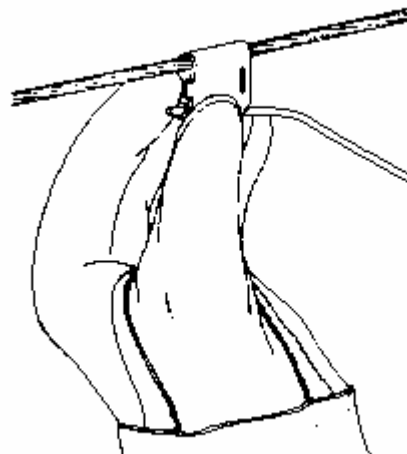

Figure 3
- b) Hook "C" component along with the service entrance conductor over the main conductor with the open side of "C" facing away from operator . See Figure 3 .